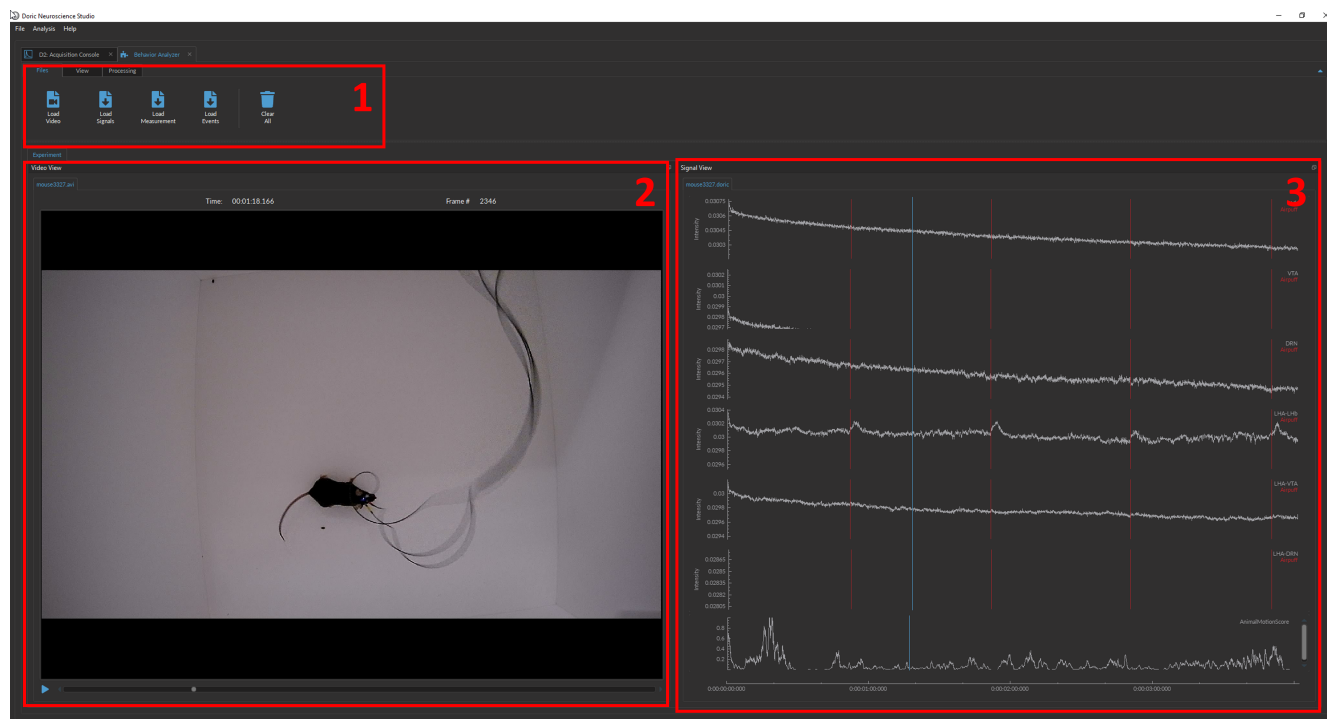

Figure 12.1: Behavior Analyzer Module Interface
The interface can be separated into three major sections (Fig 12.1):
1. The **Tabs** (Fig 12.1, 1) are used to access the controls, settings, and functions of the module. These controls and settings are split into three tabs, which will be treated in the following sections:
2. The **Video View** (Fig 12.1, 2) displays the recorded footage and controls the frames displayed. The **Play** button on the bottom left runs the video. The scroll bar beside it can be used to choose a frame while the video is paused. See Section 12.4 for more details.
3. The **Signal View** (Fig 12.1) displays the raw traces associated with the video. The red bar over the traces corresponds to the timestamp of the associated frame of the video. See Section 12.5 for more details.